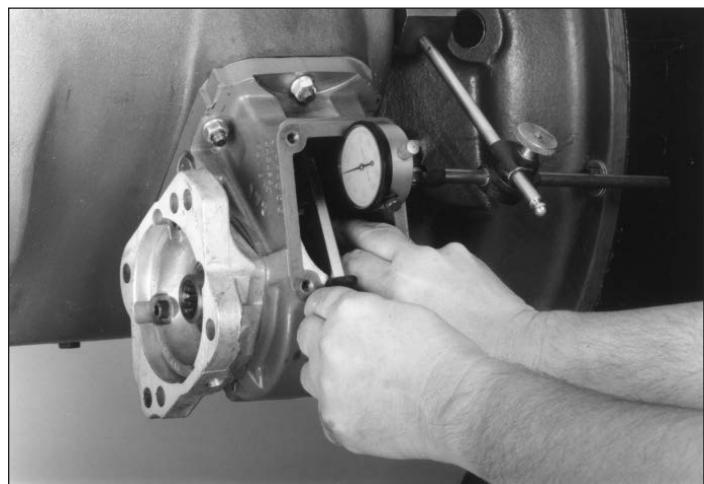

Figure 41
2. Mount a lever-style dial indicator so that it registers movement of the input gear (driven gear) of the PTO (**Fig. 41**).